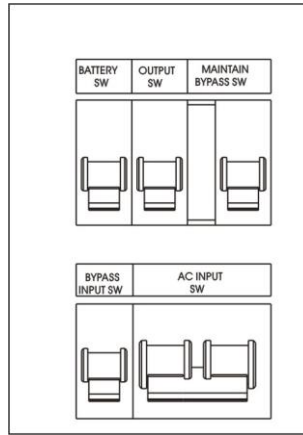

Figure 9 8-10K
6. Do not position UPS in the place where contains caustic gas. (Figure 9)